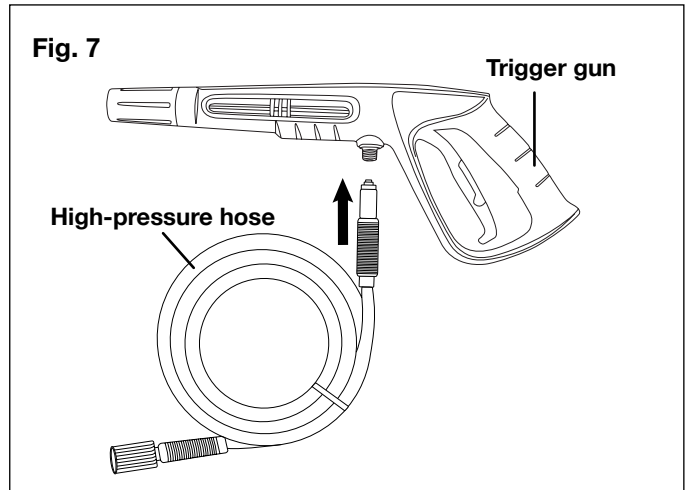

Fig. 7
7. Connect the high-pressure hose to the trigger gun (Fig. 7).